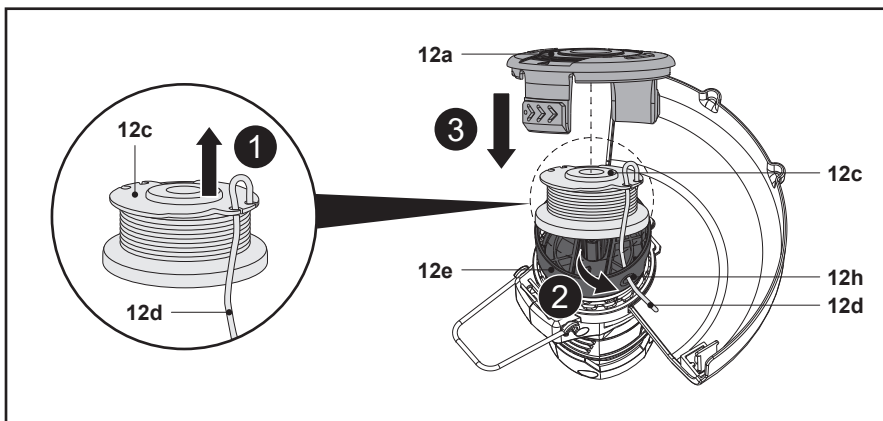

Fig. 25
6. Release the trimming line (12d) from the notches and hold it in position. Avoid the trimming line (12d) scattered from the trimming spool (12c) (Fig. 25, Step 1).
7. Lead the trimming line (12d) ending through the eyelet (12h) of the housing (12e) (Fig. 25, Step 2).
8. Insert the trimming spool (12c) into the housing (12e) (Fig. 25, Step 3). Twist the trimming spool (12c) until it locks into place.